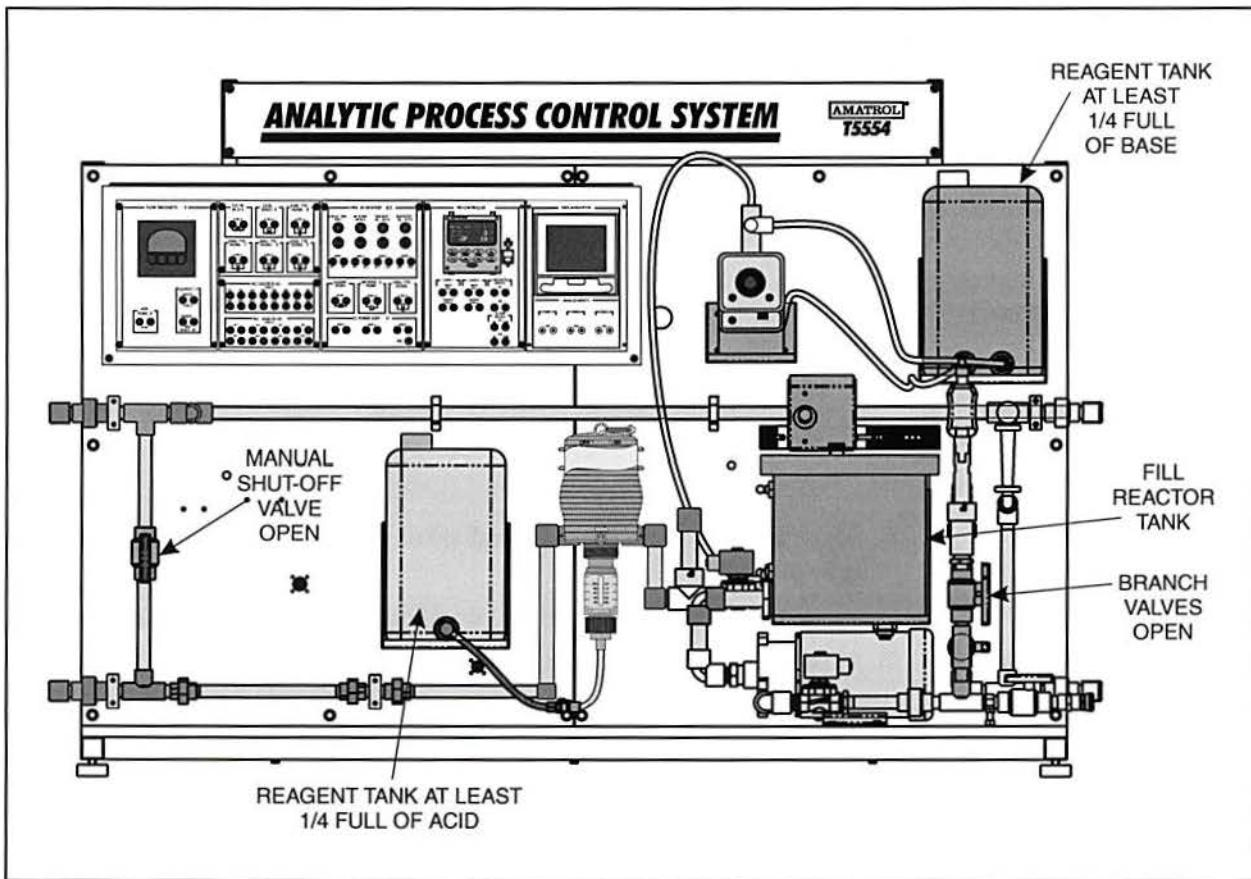

Figure 67. T5554 Setup
- 1. Perform the following substeps to make sure the T5554 Analytical Process Control System is set up as shown in figure 67.